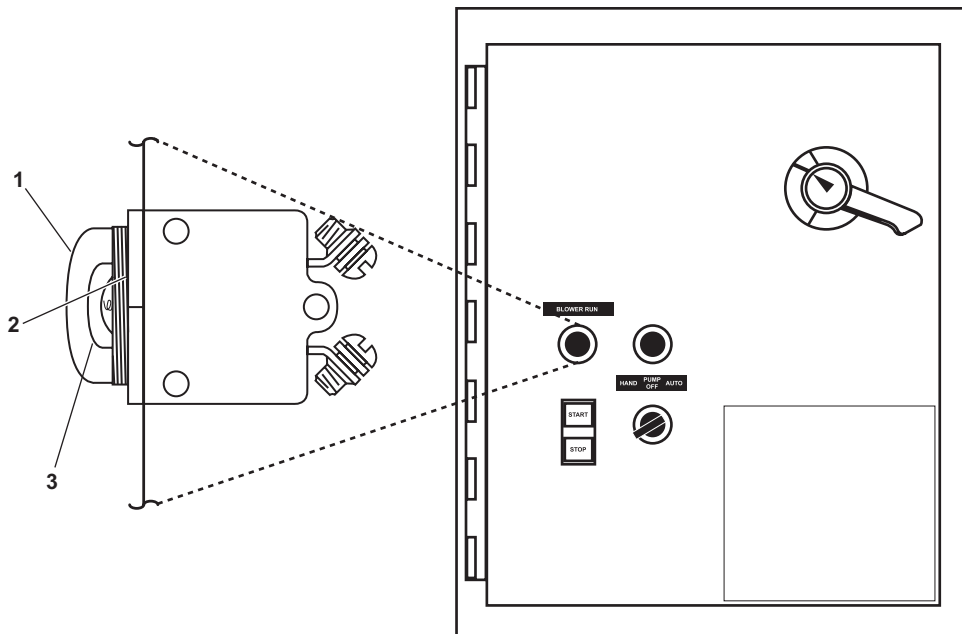

Figure 1. MSD Motor Controller
1. Unscrew and remove the light indicator lens cap (figure 1, item 1) from the indicator light housing (figure 1, item 2).
2. Unscrew and remove the lamp (figure 1, item 3) from the indicator light housing (figure 1, item 2).
1. Thread the lamp (figure 1, item 3) into the indicator light housing (figure 1, item 2) until it is finger tight.
2. Thread the lens cap (figure 1, item 1) into the indicator light housing (figure 1, item 2) until it is finger tight.